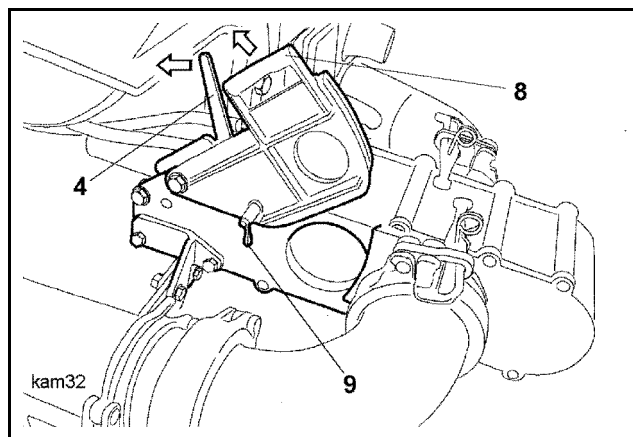

Fig. 508
- Shut the ball valve by pulling the lever (4) (**Fig. 508**) up 90° so that the hydraulic cylinders cannot be actuated and the ball flap can be opened.
- Open the flap of the chamber valve using the handle (8) and lock it in place with the toggle (9) (**Fig. 508**).
The flap can only be opened if the lever (4) (**Fig. 508**) is turned (ball valve closed).